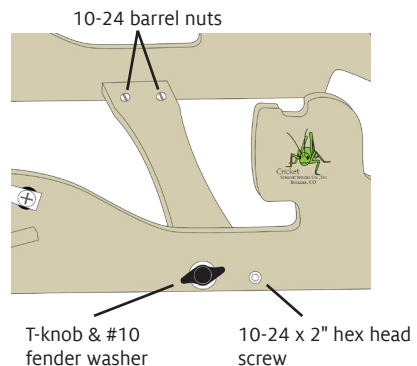

FIGURE 2: CROSS BRACE HARDWARE ON LOOM
- Place one 10-24 barrel nut into each hole of the cross brace, with the slot of the barrel nut perpendicular to the loom side (Figure 2). If you wish, hold the barrel nuts in place with masking tape.
- Remove the screws from the **rear hole** on each side. Insert one 10-24 x 2" hex head screw through this hole and into the barrel nut (Figure 2). Fully tighten the screw with the included 5/32" hex wrench. Repeat for the other loom side.